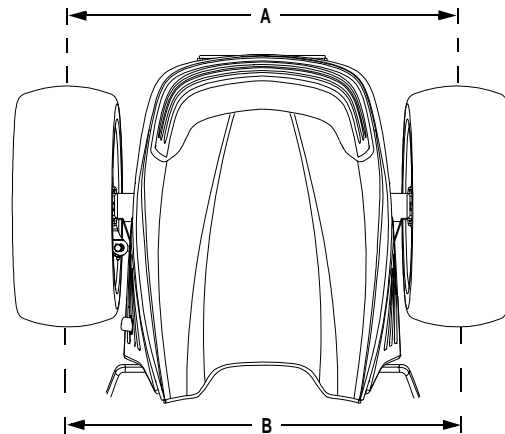

Figure 31
- Measure and record the distance 'A' between the two marks. See Figure 31.
- Roll the tractor forward or rearward until the marks are at the horizontal center line at the rear of the wheels. Measure and record the distance 'B' between the marks. See Figure 31.